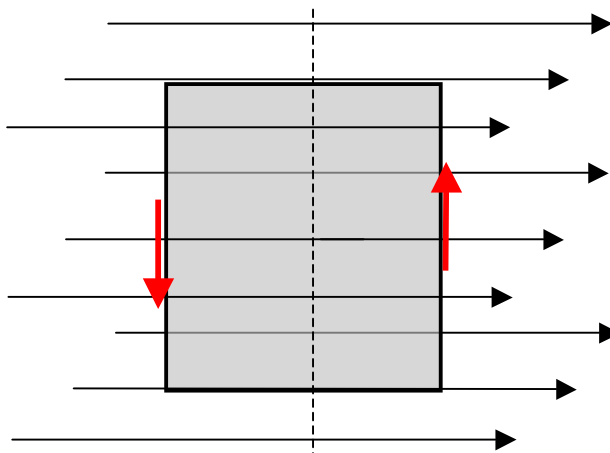

Figure 11.9a
1. The plane of a wire loop shown in Figure 11.9a is initially parallel to the uniform magnetic field directions shown by the black arrows. Your task is to determine how (or whether) this loop will move when there is charge flow in it as shown in the diagram.